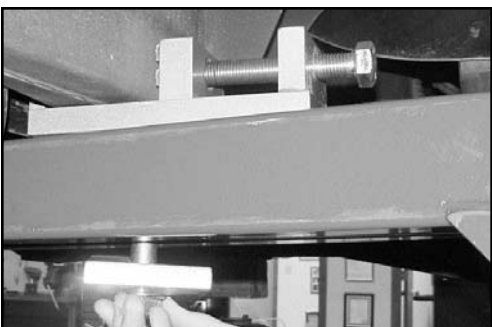

Figure 4
5. Secure rail vise to the crossbar using an appropriate length tie down bolt and tie down plate. Insert bolt upward through channel in crossbar and hole in spacer(s) - if installed. Thread the bolt into the base of the rail vise and hand-tighten at this time. (See Figure 4.)